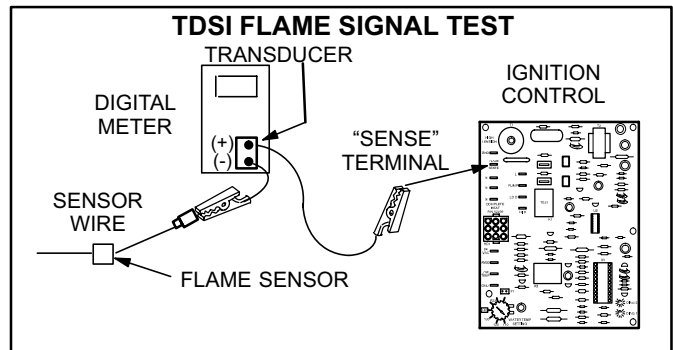

FIGURE 32
- 4- Connect (+) lead of meter to ignition control sensor connection. See figure 32.
- 5- Connect (-) lead of the meter to sensor wire. See figure 32.